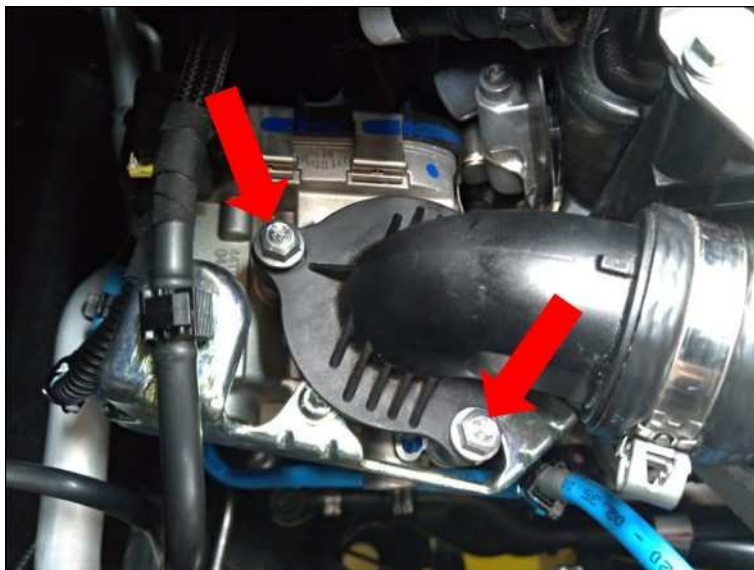

Fig. 4
8. Remove and discard the two nuts (Fig. 4) and disconnect the turbocharger air outlet pipe from the throttle body.
10. Using the new nuts (Fig. 4) , install the turbocharger air outlet pipe. Tighten the new nuts to 10 N·m (88 in. lbs.).